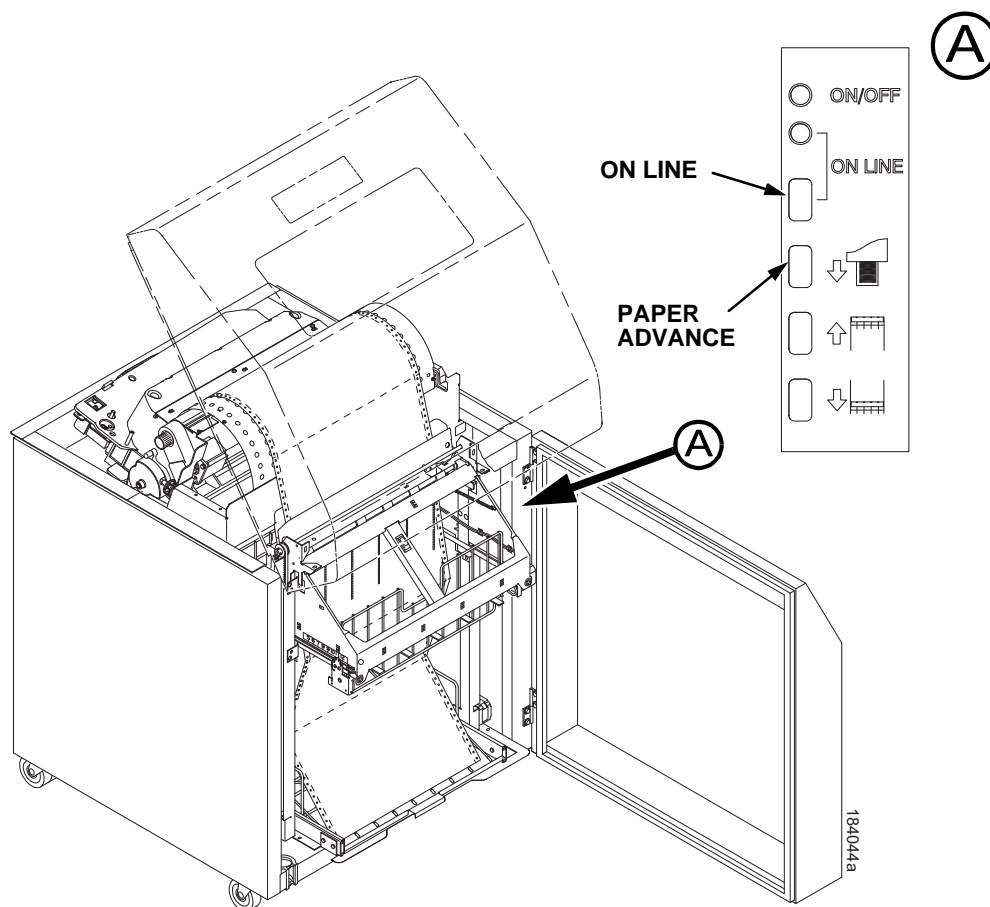

Figure 71. Stacking Paper on the Wire Paper Tent
1. Press the **PAPER ADVANCE** key and hand feed the paper down into the paper throat of the stacker. Continue to advance the paper until it reaches the paper tent (if installed) and feed three to five extra sheets into the stacker. Make sure the paper passes through the paper throat of the stacker. (Figure 71.)
2. Stack the extra pages on top of the wire paper tent (if installed), making sure the paper bends with the natural fold. (Figure 71.)